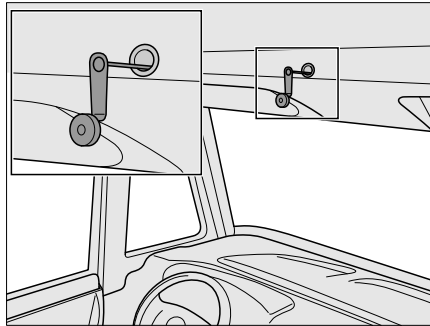

Fig. 171 Emergency operation for the electrical pull-down bed
- ▷ In the case of a power failure the electrical pull-down bed can also be moved with an emergency crank (Fig. 171). This is located in the kitchenette.